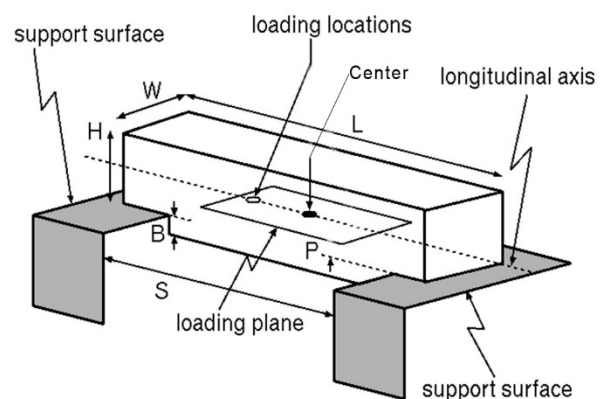

Figure 1. Bridge schematic (not to scale).
- b. The bridge (see Figure 1) must span a gap (**S**) of 300. mm, be no longer (**L**) than 400. mm, be no taller (**H**) than 80. mm above the support surface, and no wider (**W**) than 80. mm at the loading surface. The bridge structure may project of (**B**) of 20. mm below the support surfaces (see Figure 1).
- b. The load will be applied with the center of the plate at 60 mm from the center on the longitudinal axis of the bridge. The loading locations must lie in the same horizontal loading plane (**P**) between 0. and 20. mm above the support surface (see Figure 1).